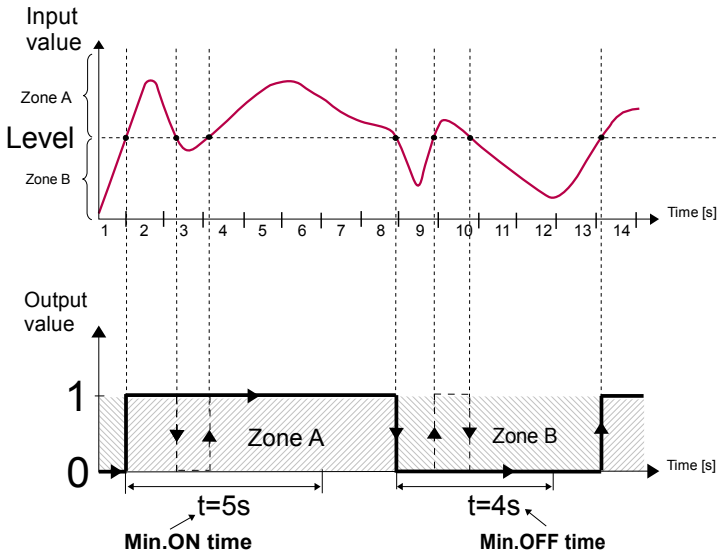

Fig. 7.85. Principle of relay output operation for sample timing settings:
- **Minimum ON time** - the minimum duration of a high state (if the output switches to high state the low state will occur after this time) - see Fig. 7.85,
- **Minimum OFF time** - the minimum duration of a low state (if the output switches to low state the high state will occur after this time) - see Fig. 7.85,